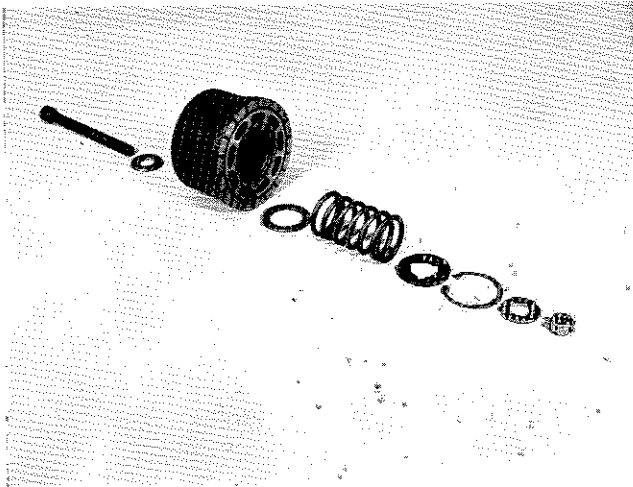

Figure VI-22. Removal of Snap Ring from Cylinder Block
- a. After compressing the spring (Figure VI-22), remove the snap ring from the cylinder block.